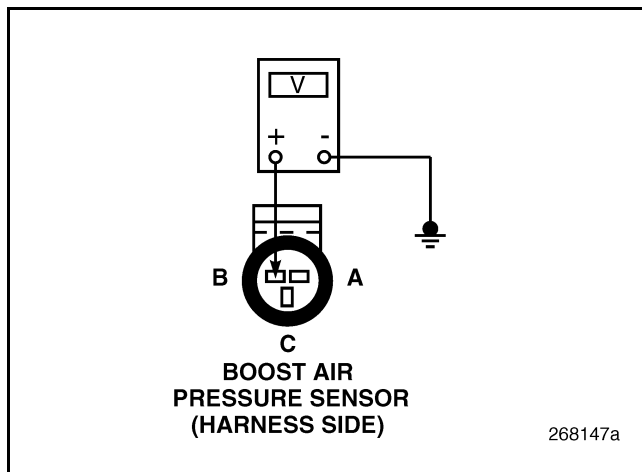

Figure 180
4. Measure the voltage between BAP Sensor harness connector pin B (reference voltage line) and a good ground (see Figure 180).